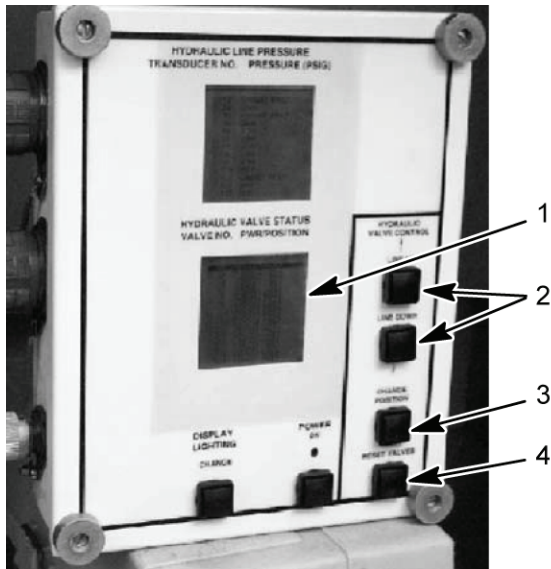

Figure 9. HDC Control Box
- Reset all HDC solenoid valves by selecting the RESET VALVES button (Figure 9, item 4) on the HDC control box.
- Disable ejector by manually closing the ejector inhibit ball valve V23 (Figure 10, item 1) on the DCV bank. Using LINE UP or LINE DOWN button (Figure 9, item 2), select V1 on the HDC display (Figure 9, item 1). Close V1 on the HDC display (Figure 9, item 1) by selecting the CHANGE POSITION button (Figure 9, item 3) on the HDC control box.